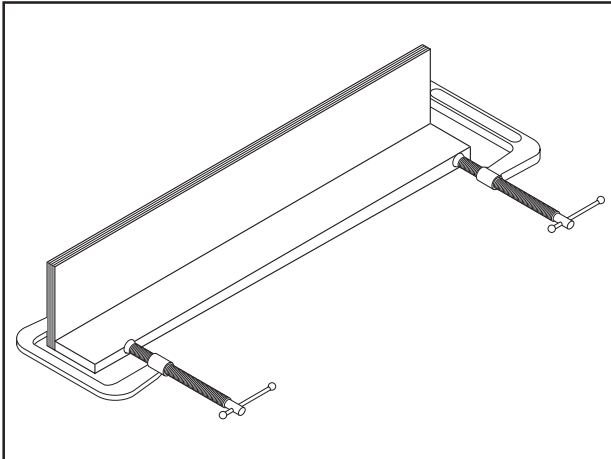

Figure 54. Clamping the resawing barrier.
3. Glue the end of the 3" board, then clamp the boards at a 90° angle with the larger board in the vertical position as shown in **Figure 54**.